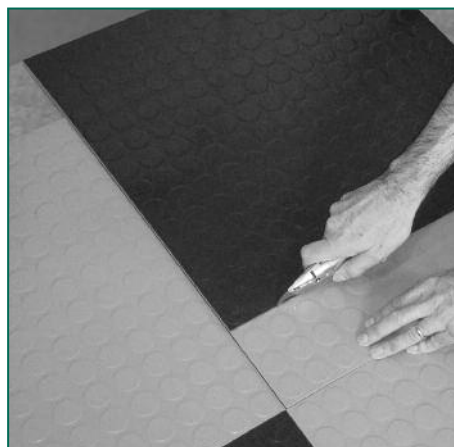

Figure 21 Measuring using an overlapping tile
**B.** Place another full tile on top of the tile to be cut, with its "top edge" against the wall (Figure 21).